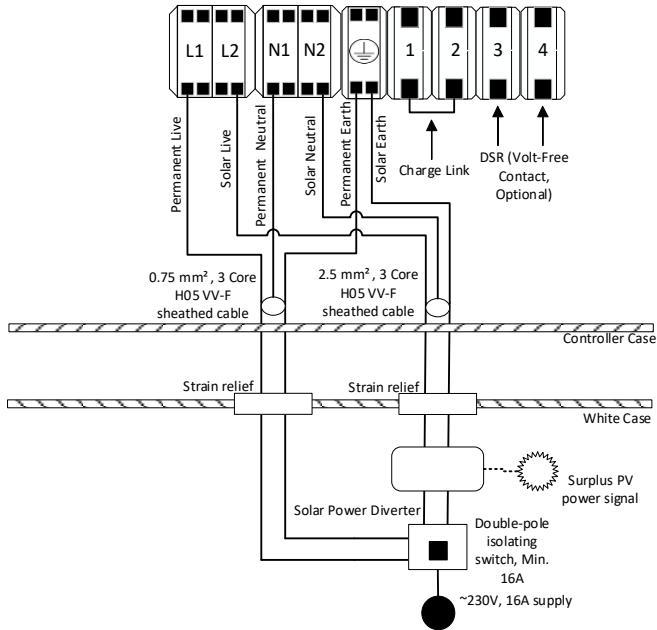

Figure 12 - Thermino ePlus Heat Battery wiring with solar power diversion
- With Solar Power Diversion follow Section 6.4.2, Figure 12.
Potential dual-supply - Always isolate both supplies to the Heat Battery controller before working on the appliance. Ensure that Links 1 & 2 are removed (see Figure 12) and that the power diversion controller output is modulating AC.